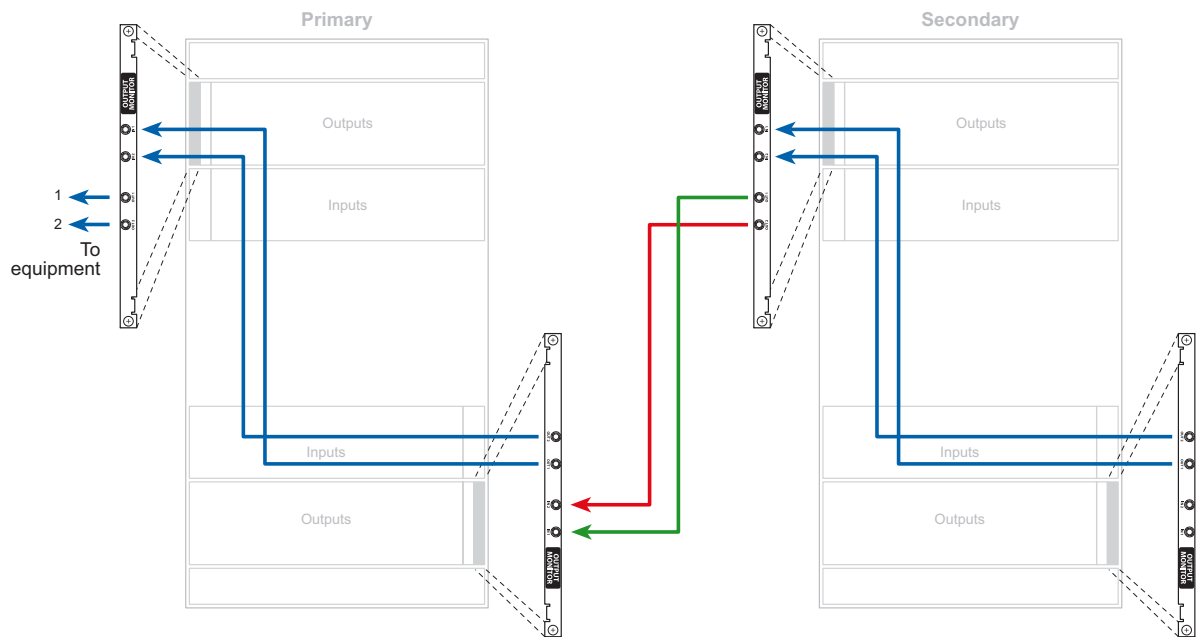

Figure 2-26. NV8576-Plus Connections (Rear View)
- 1 For each router frame, connect 'OUT 1' of the lower output monitor backplane to 'IN 1' of the upper output monitor backplane and 'OUT 2' of the lower output monitor backplane to 'IN 2' of the upper output monitor backplane, as shown in Figure 2-26.
- 2 Connect 'OUT 1' of the upper output monitor backplane in the *secondary* frame to 'IN 1' of the lower output monitor backplane of the *primary* frame, as shown in Figure 2-26.
- 3 Connect 'OUT 2' of the upper output monitor backplane in the *secondary* frame to 'IN 2' of the lower output monitor backplane of the *primary* frame, as shown in Figure 2-26.
- 4 Connect 'OUT 1' and 'OUT 2' of the upper output monitor backplane of the *primary* frame to your monitoring equipment, as shown in Figure 2-26.